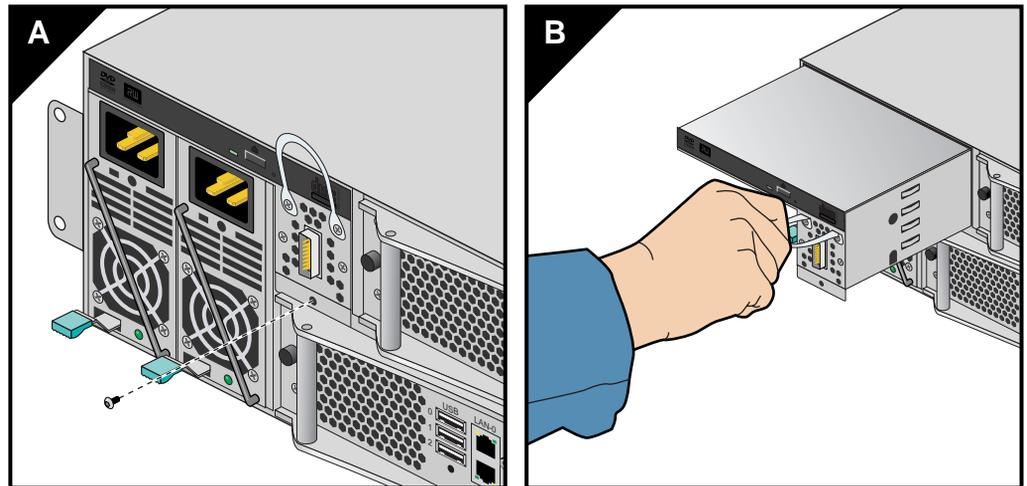

Figure 5-9 UV 100 Drive Tray Removal
5. Remove the retention screw and set it aside, see Figure 5-9 for an example.